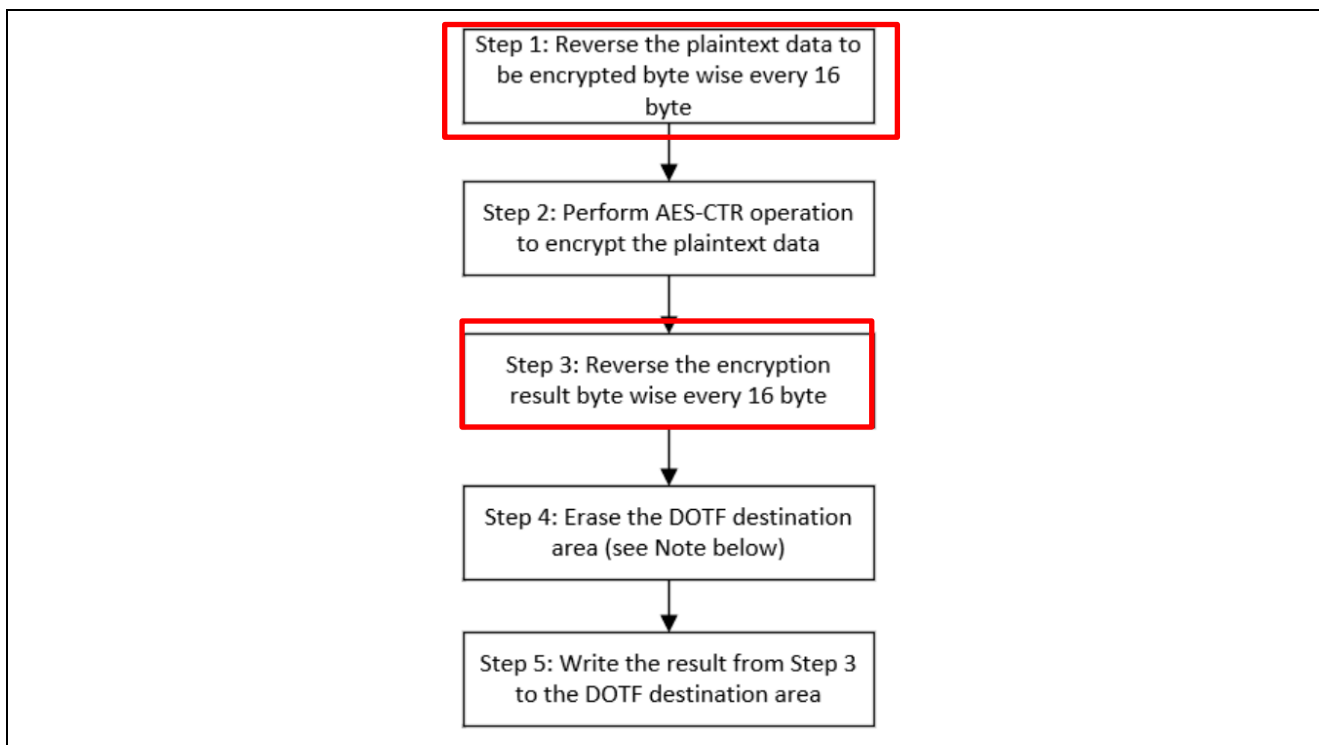

Figure 5. Runtime Encryption Operational Flow
- Refer to Figure 5 for the major steps used for the runtime encryption.